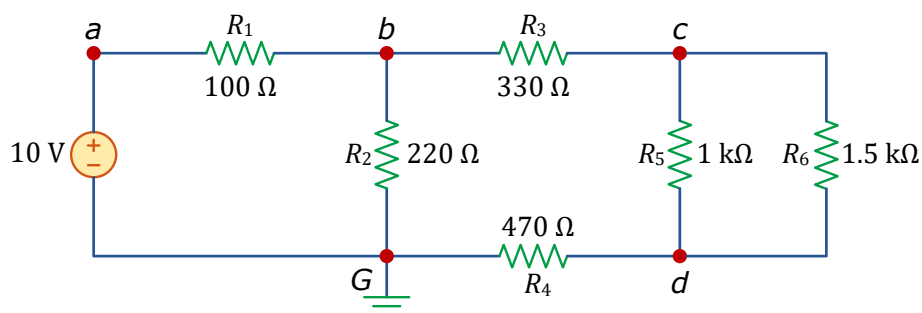

Figure 3.4: Resistive circuit for Pre-Lab 3.
- 8 Consider the circuit of Figure 3.4. Calculate the resistance seen from the terminals of the 10-V DC source.